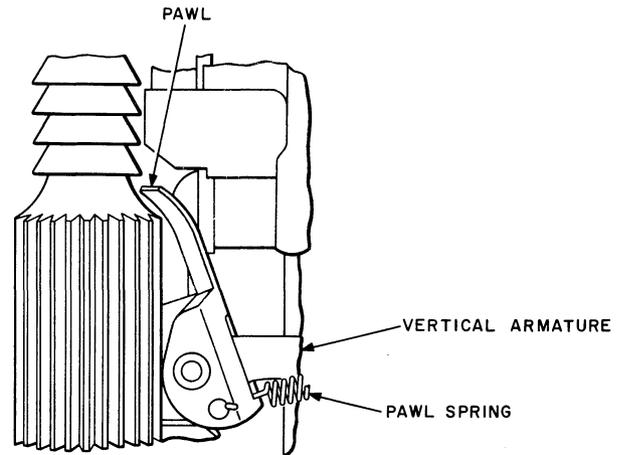

Fig. 18 — Method of Attaching Vertical Armature Pawl Spring to Vertical Pawl
(1) To replace the vertical armature pawl spring, remove the vertical armature assembly as described in 3.07. Replace the pawl spring on the armature assembly and remount the armature assembly. On switches where the vertical armature assembly has an arm, proceed as follows:
(2) Remove the double dog as described in 3.18. Disengage the vertical armature spring from the adjusting screw and swing it to the right. Unhook the pawl spring from the pin or hook on the armature and also from the pawl, using the 6-inch tweezers. Hook the open end of the new spring in the hole at the right of the pawl with the open end of the spring facing outward (toward the right). Place the looped end over the pin or hook on the armature. See Fig. 18. The tension of the spring after it has been placed in this position should be sufficient to hold the pawl in its extreme forward position. Remount the double dog as described in 3.18.